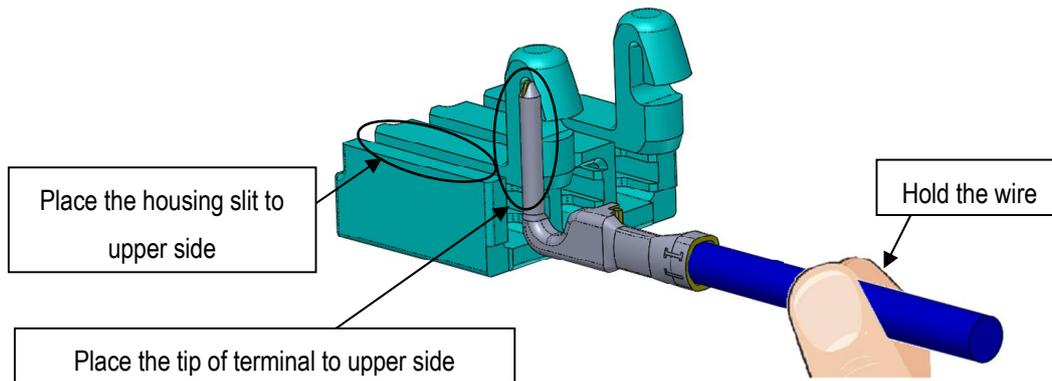

Fig 23. Terminal insertion direction
- ① Ensure that the terminal is crimped correctly and there is no damage, deform or dirt present.
- ② Hold the wire to insert the terminal as shown in Fig.23.
- ③ Insert the terminal into the corresponding corehole of the housing, as deeply as possible, in the orientation as shown in Fig. 23.
- ④ Once the terminal is inserted, ensure that the terminal retention is fastened by pulling the wire lightly towards you.